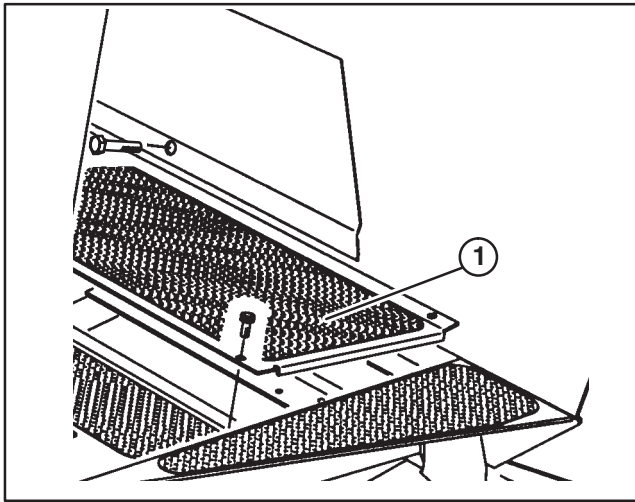

Figure 4
(Fig. 4)
1. Remove fastener securing left front corner of floor panel to frame (Fig. 4).
2. Replace with 5/16-18 x 5/8" lg. flange head capscrew supplied in loose parts (Fig. 4).